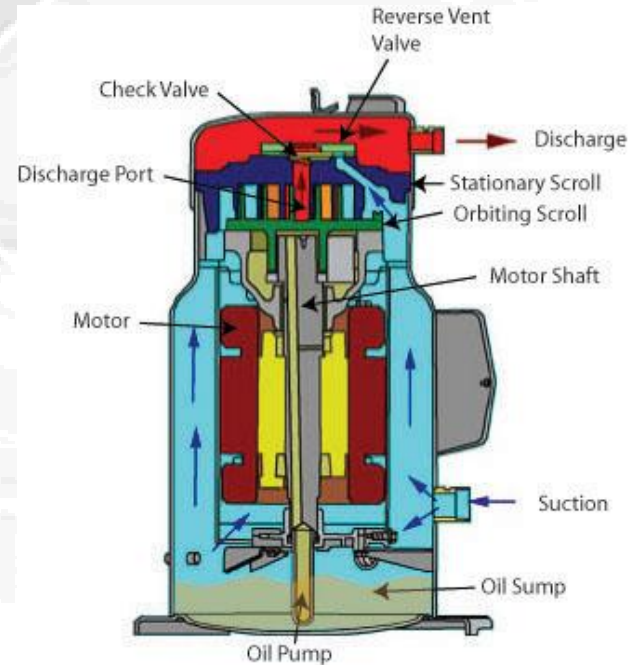

Fig. 10-8 Cutaway view of a scroll compressor [12]
- ◆ A scroll compressor is illustrated in Fig.10-8.